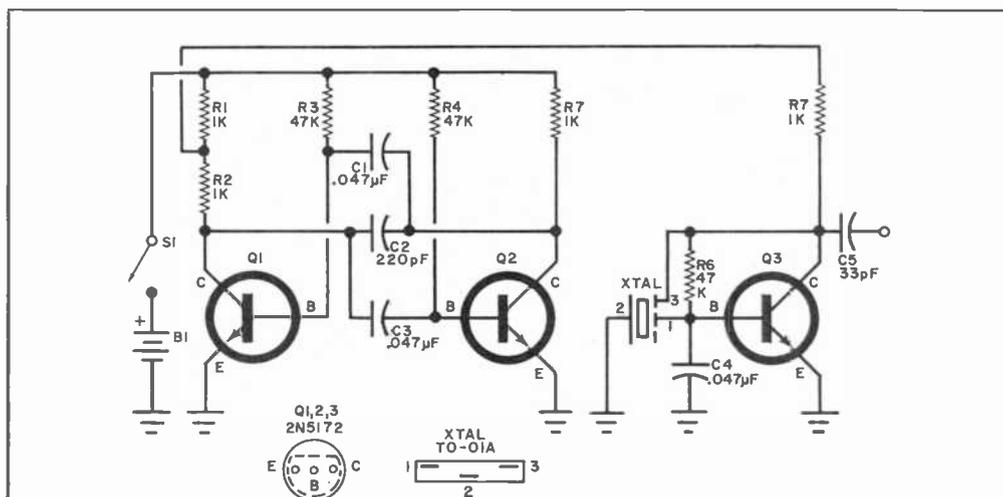

Fig. 1. Generator consists of crystal-controlled r.f. oscillator  $Q3$  and  $Q1/Q2$  multivibrator which provides amplitude modulating signal.
**How It Works.** The r.f. oscillator ( $Q3$  circuit in Fig. 1) is a variation of the Hartley or Colpitts circuit, but it uses a Clevite Transfilter,  $XTAL$ , in place of the usual coils and capacitors. The Transfilter is a piezoelectric device consisting of a plated ceramic disc. The disc has natural mechanical vibration modes which can be induced by applying a voltage to the plated terminals.